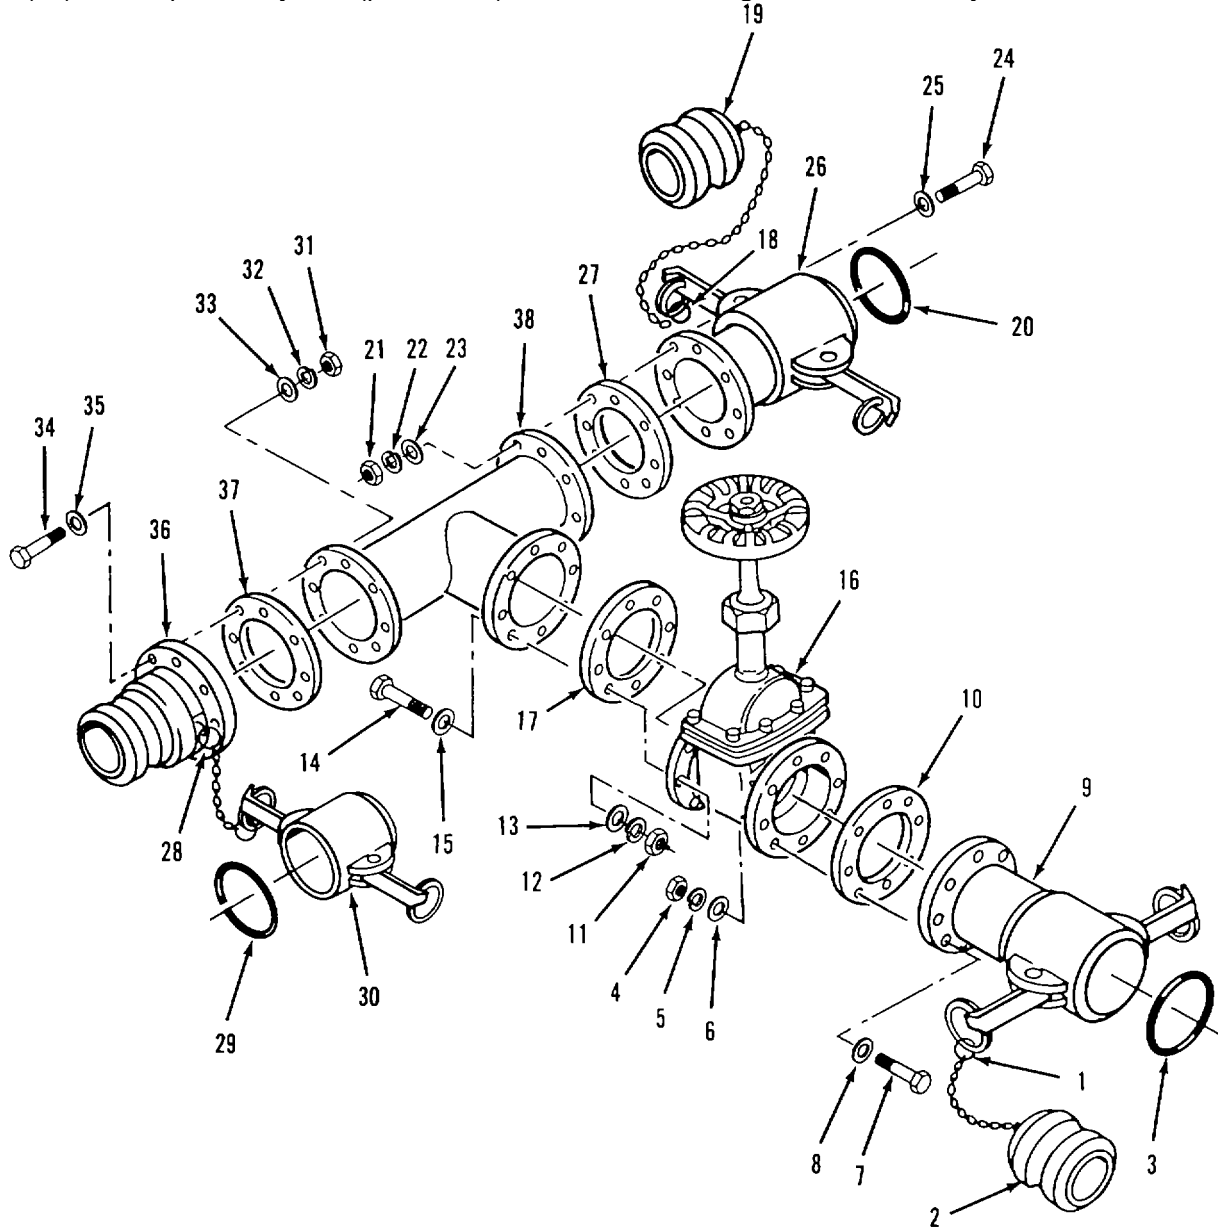

Figure 4-37. Tee and Gate Valve Assembly (9114-Y6) Assembly.
- (1) Refer to para 4-31 to repair gate valve.
- (2) Replace defective components Do not reuse sealing components.
e. Assembly. Refer to figure 4-37.
- (1) Position gasket (37) and male coupling (36) on tee (38).
- (2) Install eight flat washers (35), screws (34), flat washers (33), lockwashers (32) and nuts (31).